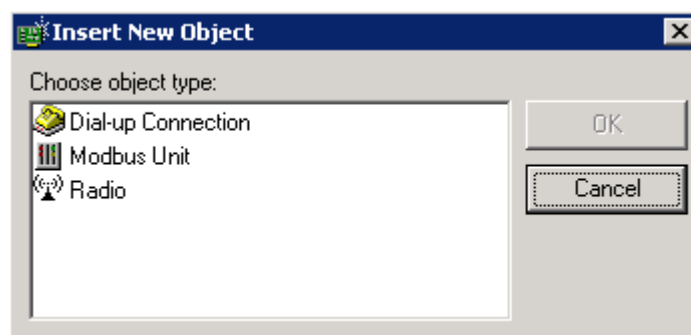

Figure 30 - Insert New Object Window
- The **Insert New Object** window (Figure 30) appears.